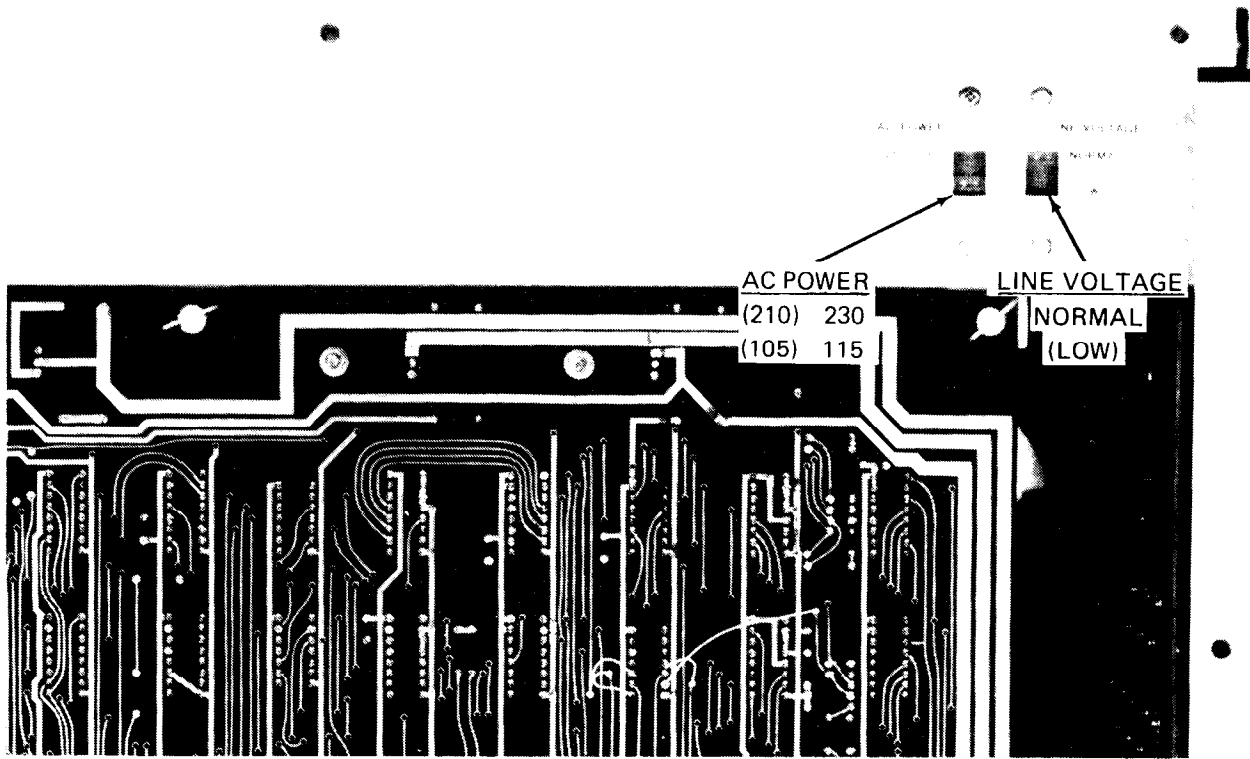

Figure 2-2. Main Unit Power Selector Switches
5. Set main unit AC POWER selector switch (figure 2-2) to 115 or 230.
6. If power input is lower than normal, set main unit LINE VOLTAGE selector switch (figure 2-2) to (LOW), which accommodates input power levels of 105 or 210 vac.